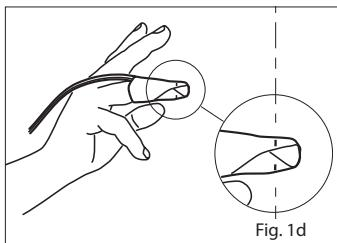

Fig. 1d
- Refer to Fig. 1d. When properly applied, the emitter and detector should be vertically aligned (the black lines should align). Reposition if necessary.